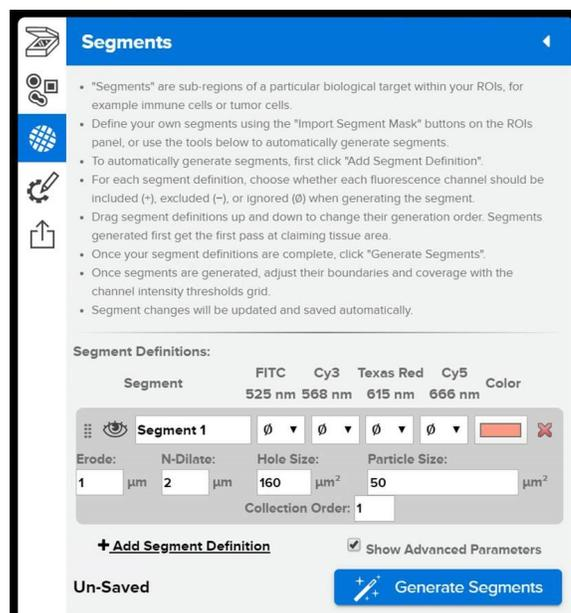

Figure 36: Scan Workspace Segmentation menu
1. Select **+Add Segment Definition** one time to establish a single definition rule. One gray Segment Definition box will appear (Figure 36).